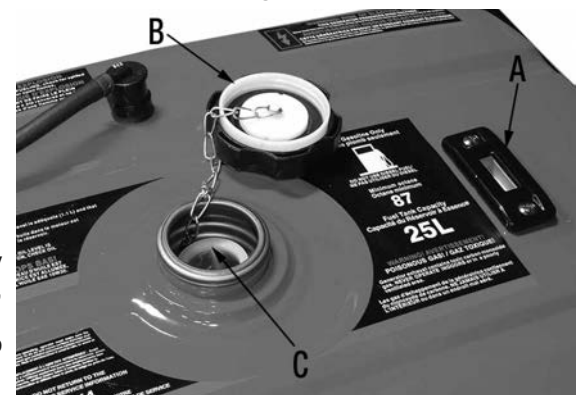

Figure 2
- 1) Check the fuel level indicator window (A) Fig.2, if the orange float gauge is all the way up, it is not necessary to add fuel. If you do not see or hardly see the orange float gauge, it is necessary to add fuel.
- 2) If it is necessary to add fuel, first make sure the engine is OFF, then open the fuel cap (B) Fig.2 by turning it counterclockwise.
- 3) Make sure the fuel filter cup (C) is positioned inside the tank opening before refueling.